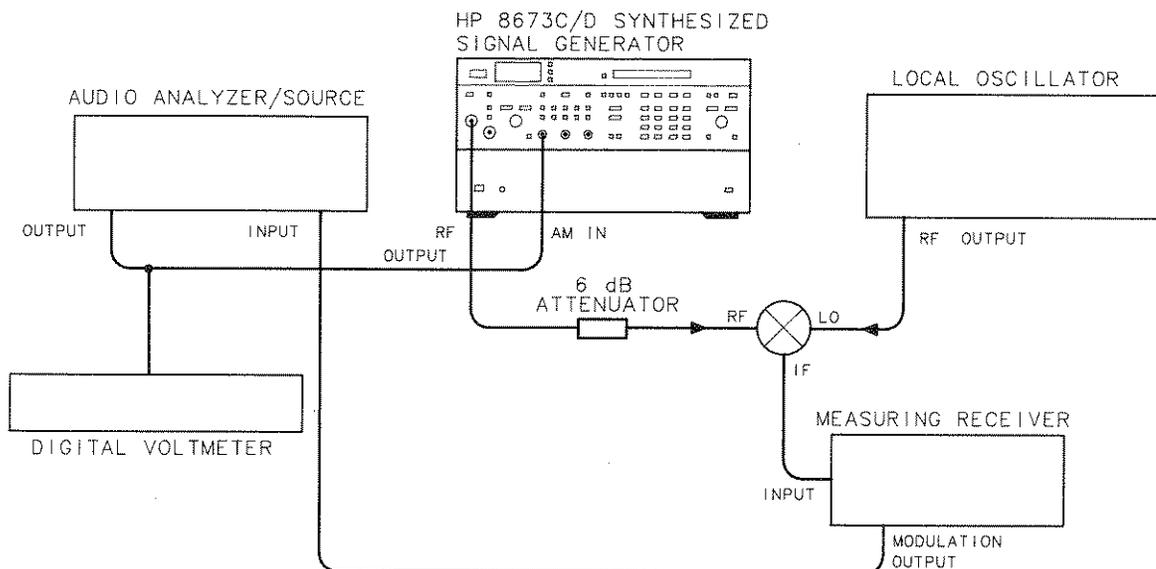

Figure 4-35. Incidental FM Test Setup, Part Two.
7. Connect the equipment as shown in Figure 4-35.